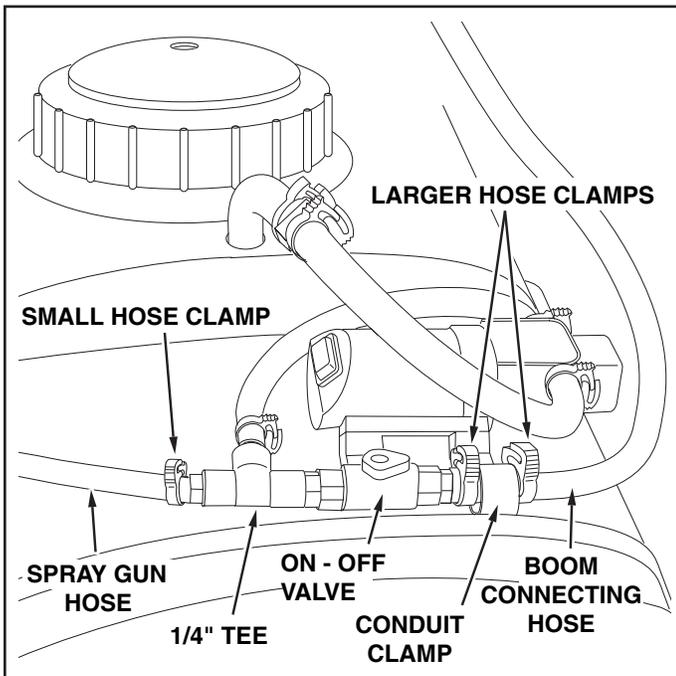

FIGURE 7
11. Slide a 3/8" hose clamp onto the boom connecting hose. Place the end of the hose through the conduit clamp attached to the pump, then slide a second 3/8" hose clamp onto the hose. Leave hose clamps loose for now. See Figure 7.
12. Push the hose onto the hose adapter in the end of the "On-Off" valve. Tighten the hose clamp around the hose and adapter. See figure 7.
13. Position the valve and hose clamp up against the conduit clamp. Slide the other hose clamp against the other side of the conduit clamp. Tighten the hose clamp without collapsing the hose. See figure 7.
14. Slide the small hose clamp onto the spray gun hose and then push the hose onto the hose adapter on the 1/4" tee fitting. Tighten the hose clamp around the hose and adapter. See figure 7.